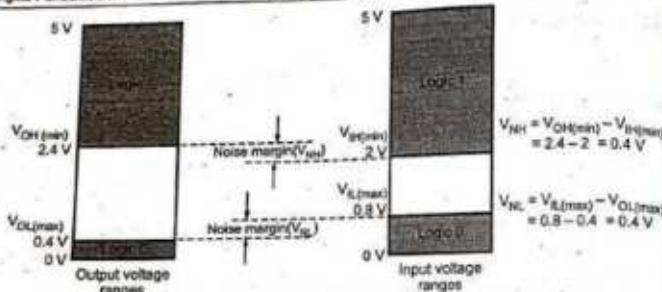

Fig. 3.3.12 TTL logic levels and noise margin
- For TTL, Low state noise margin,  $V_{NL}$ , and high state noise margin,  $V_{NH}$ , both are equal and 0.4 V. This is illustrated in Fig. 3.3.12. It provides built-in protection against noise. It ensures reliable operation of the device for induced noise voltages less than 0.4 V. (See Fig. 3.3.12 on next page)